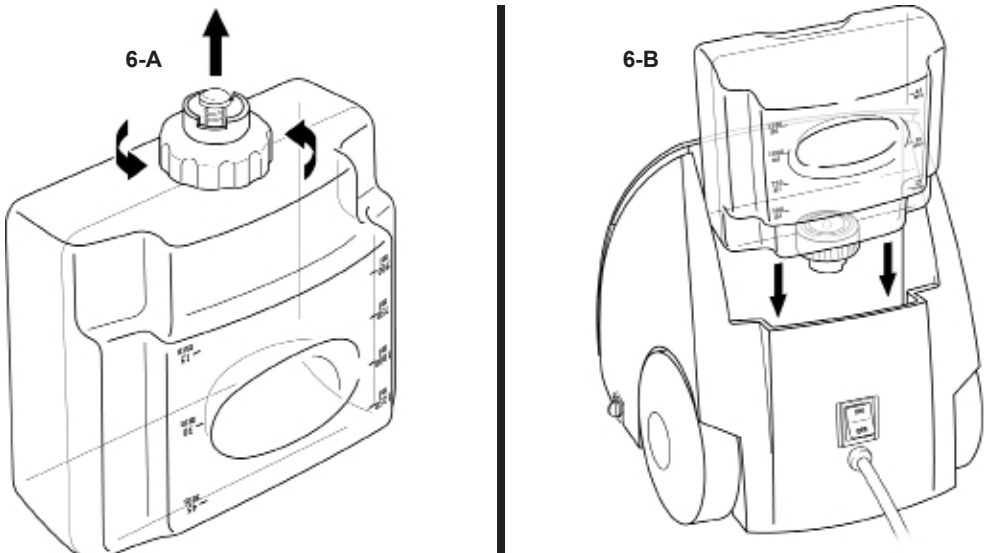

FIGURE 6
2. Holding Water Tank upside-down, unscrew and remove Valve Cap by rotating it in a counter-clockwise direction (FIGURE 6-A).
5. Place Water Tank back onto main unit (FIGURE 6-B). The sound of water flowing from Water Tank into Water Reservoir should be audible for a short period of time.